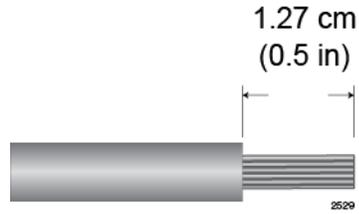

Figure 121. Stripping the Power Wires
1. Prepare adequate lengths of two stranded 8 AWG power wires by stripping them as shown in Figure 121 on page 190.